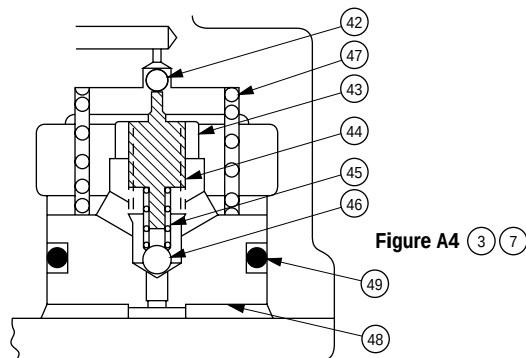

Figure A4 (3) (7)
Refer to Figure A4. Lightly bottom the stem (44) on the ball (46). Then, back out the stem 3-1/2 turns. Tighten nut (43). The resulting pressure setting should be approximately 19.3 Bar (280 psi).